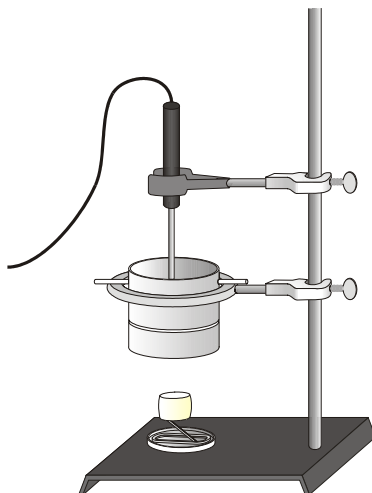

Figure 1
2. Obtain a sample of food and a food holder similar to the one shown in Figure 1. Mount the food onto the food holder so that it can burn without damaging the holder. Find and record the initial mass of the food sample and food holder. **CAUTION:** *Do not eat or drink in the laboratory.*
4. Set up the apparatus shown in Figure 1.